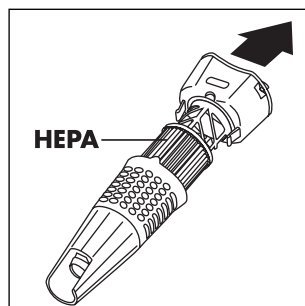

Fig. 21
- Pull the top part to separate the "ECO HEART" filter elements (fig. 21) and then remove the washable HEPA* filter.